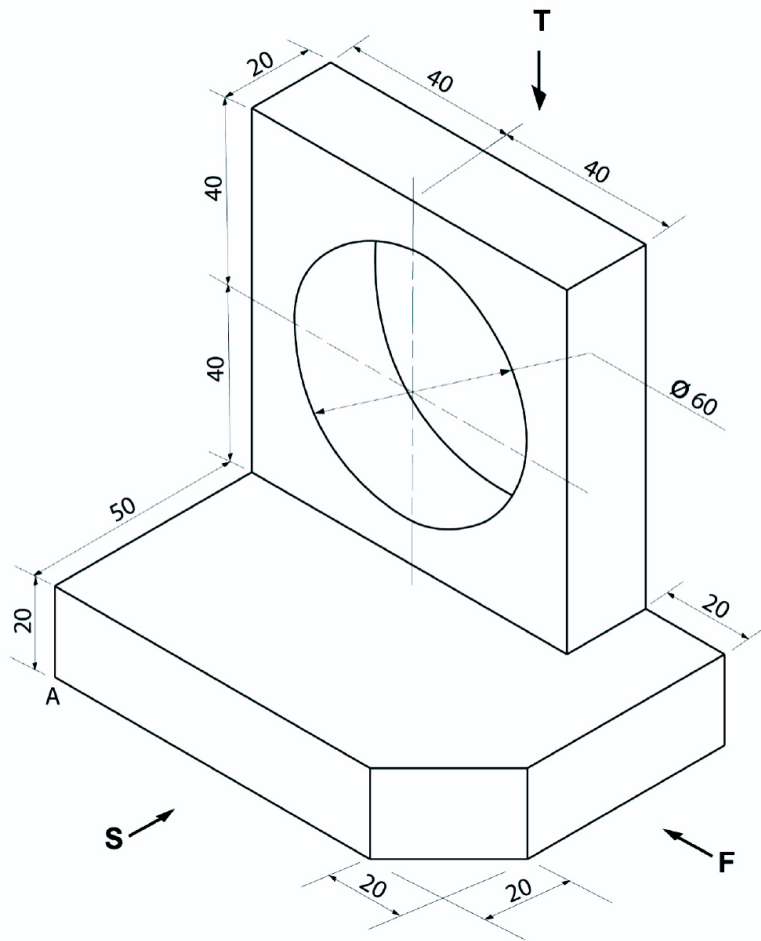

Figure 2
**Figure 2** shows the isometric projection of a shaped block.